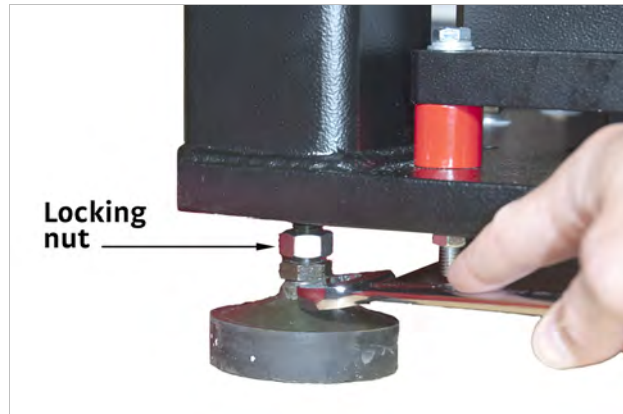

FIGURE 3-9 Locking the vibration dampening feet locking nut
- f. Using a $\frac{3}{4}$ in or adjustable wrench, lock the vibration dampening feet locking nuts up against the bottom of the probe station stand (FIGURE 3-9).